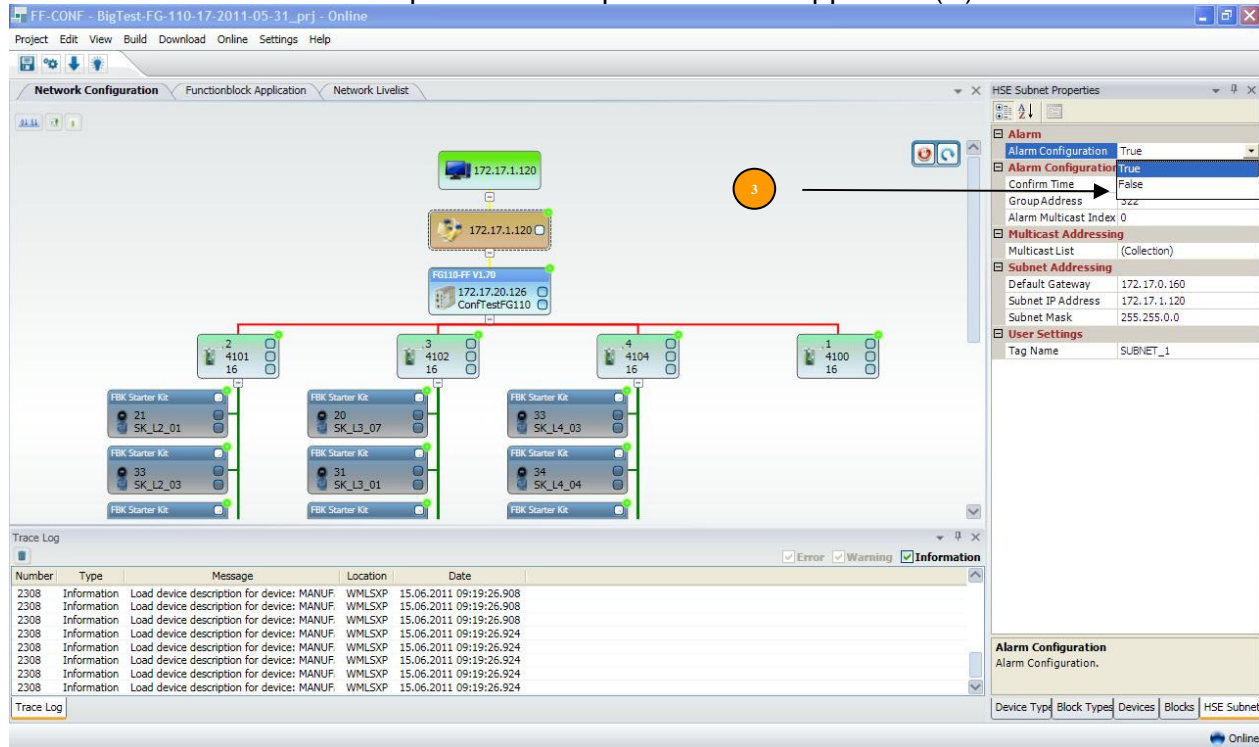

Figure 5.2: HSE alarm configuration
Set the "Alarm Configuration" flag to the value "True" and edit the configuration parameters "Confirm Time", "GroupAddress", and "Alarm Multicast Index." (See Figure 5.2) ③